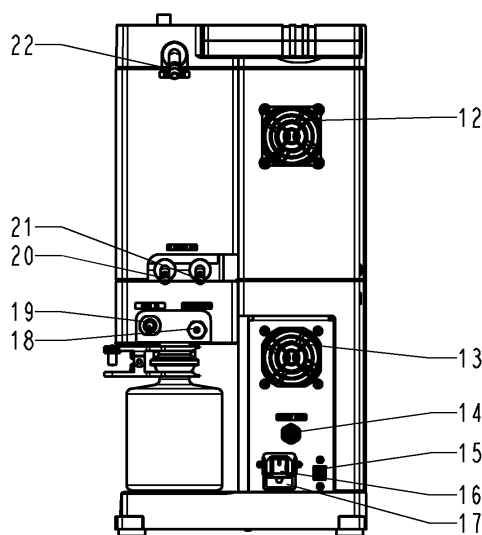

Fig. 2: Vacuum pump system SC950
The vacuum pump system generates a vacuum that can be controlled either through the hand terminal (see Fig. 2/4, p. 13) or a PC.
Collection flask (Fig. 2/9) collects on the suction side of the pump particles and drops that were, contrary to the requirements of the pump, suctioned from the vacuum chamber. The collection flask is coated (implosion protection) and fastened to the vacuum pump system via a flask clip (7).
Gas ballast The gas ballast switch (Fig. 2/6) can be used to open and close the gas ballast valve on the vacuum pump system's pump (see Chapter 5.6).